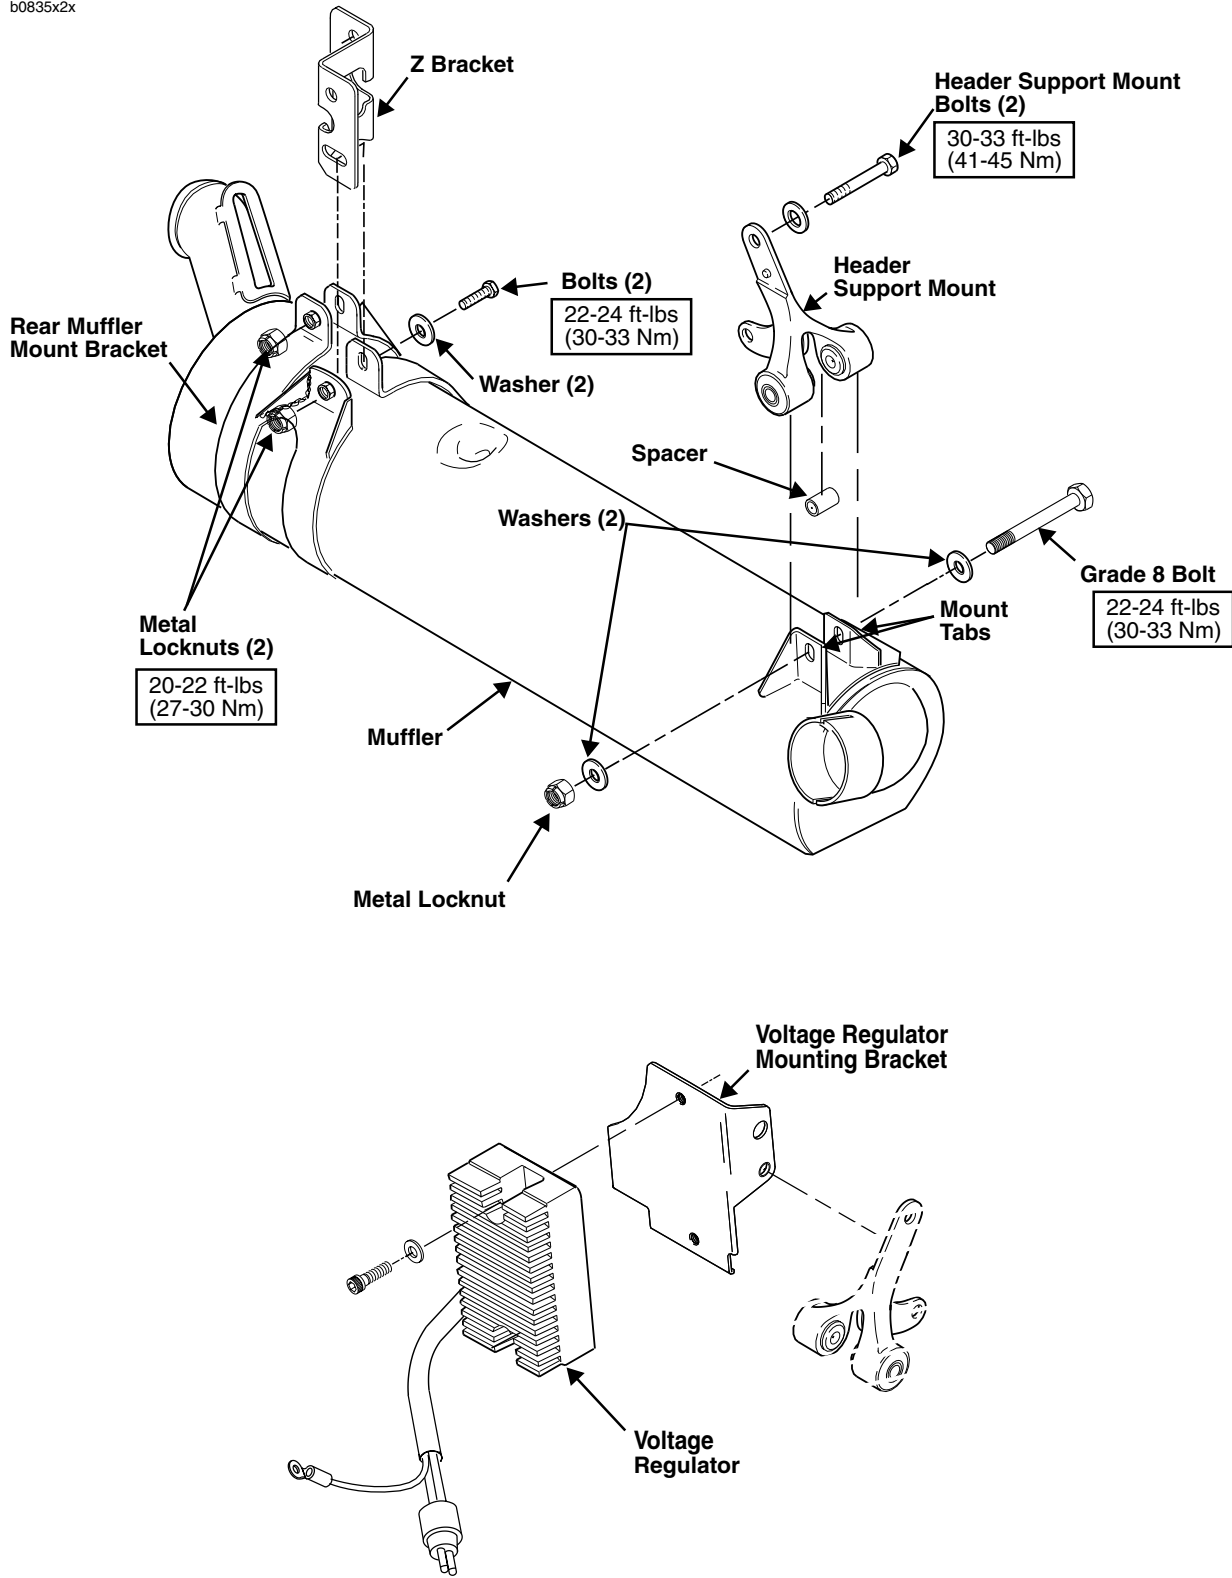

Figure 2-98. Exhaust System
2. See Figure 2-98. Remove lower bolt (Gr. 8), metal locknut, washers and spacer from header support mount at the front of the muffler.
2. See Figure 2-98. If removed, install Z-bracket to mount block.
7. See Figure 2-98. Secure muffler to header support mount with bolt, locknut and washers. Tighten to 22-24 ft-lbs (30-33 Nm).